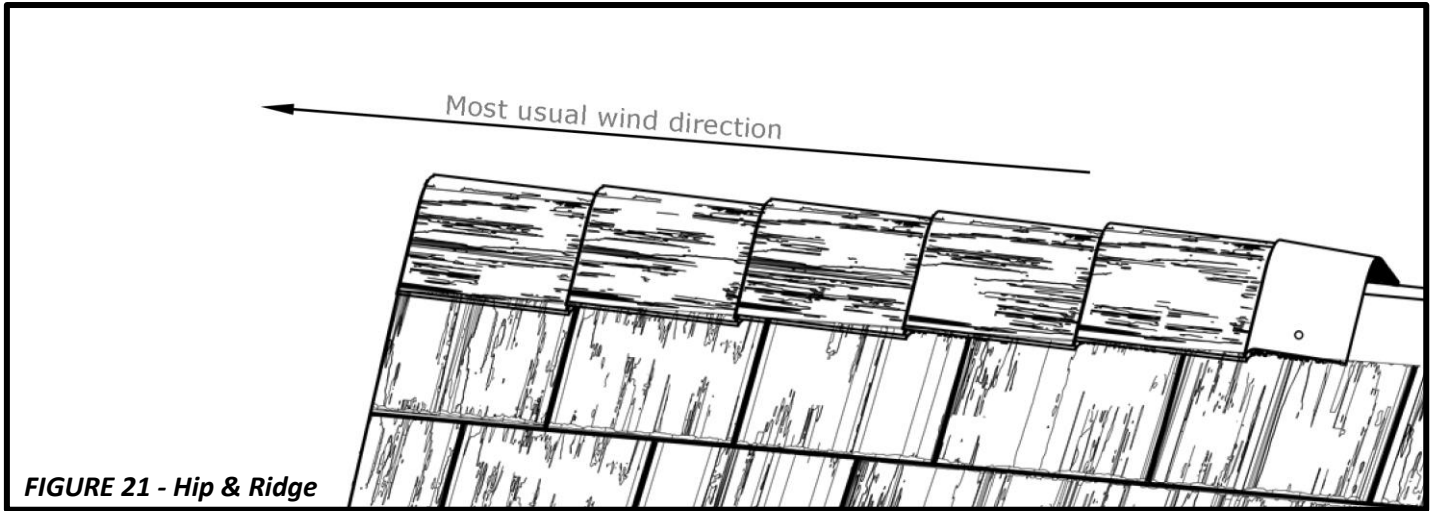

FIGURE 21 - Hip & Ridge
- Make a starter shingle by removing the exposure portion. See **Figure 20**. Install Hip and Ridge with a **7 3/4" (197mm) exposure**. At the ridge, start the hip and ridge shingles from the opposite direction of the prevailing winds. See **Figure 21**. Begin hips at the bottom of the hip. For further installation details about FWAVE Hip and Ridge, visit fwaverroofing.com.